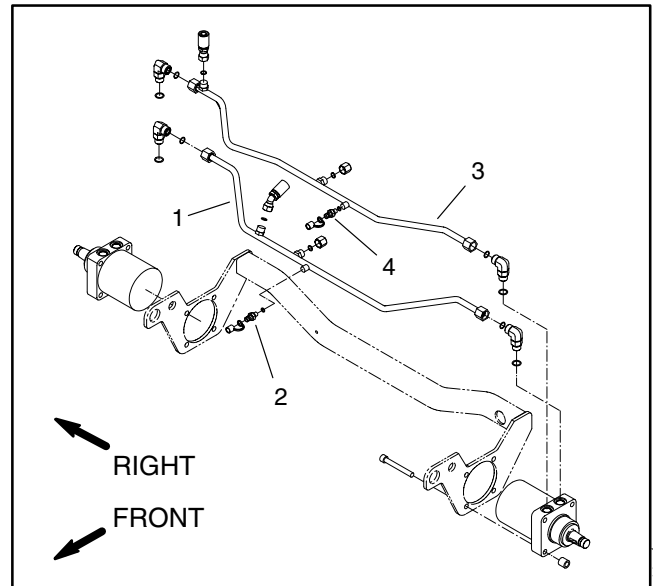

Figure 15
5. Connect pressure test gauge with a hydraulic hose attached to the forward test port located on the hydraulic tube (Fig. 15 and 16). Make sure gauge hose is long enough so the operator can read gauge while driving the machine.